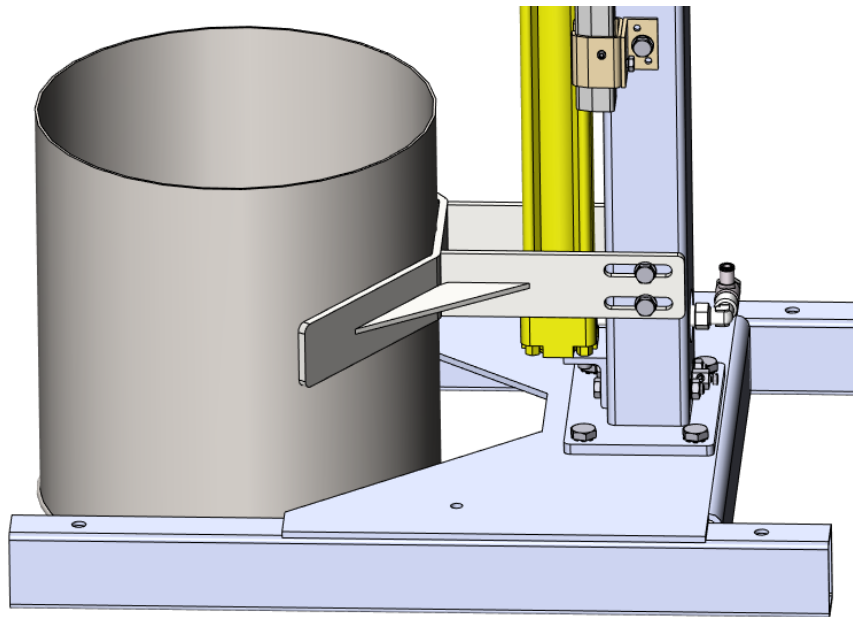

Figure 11: Correct adjustment of the barrel stop
4. Once the lid is centered on the agitator container, pull the barrel stop forward until it touches the agitator container (Figure 11).